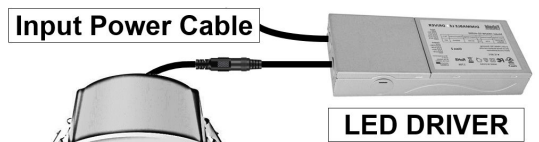

Fig.5
- Connect the cables of DOWNLIGHT to LED Driver. (Fig.5)